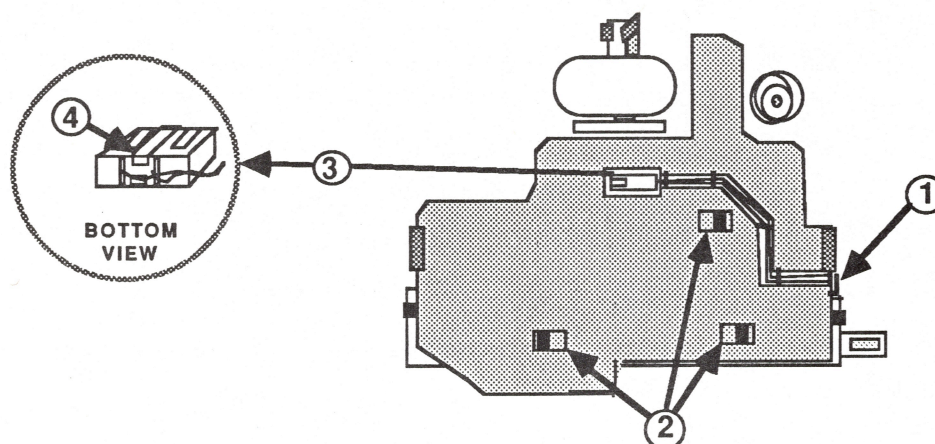

FIGURE 8
8. Remove the color ribbon selector wires from the plastic clamp which is located on the side of the carrier assembly (see Figure 8, #1) by gently prying the clamp away from the carrier assembly.
9. Using a jeweler's flathead screwdriver push the tabs towards the center of the ribbon plate (see Figure 8, #2).
11. Lay the ribbon plate upside down to remove the color ribbon detect switch (see Figure 8, #3). Do not remove the switch unless replacing the ribbon plate.
12. Insert a jeweler's flathead screwdriver under the tab on each side of the detect switch (see Figure 8, #4).